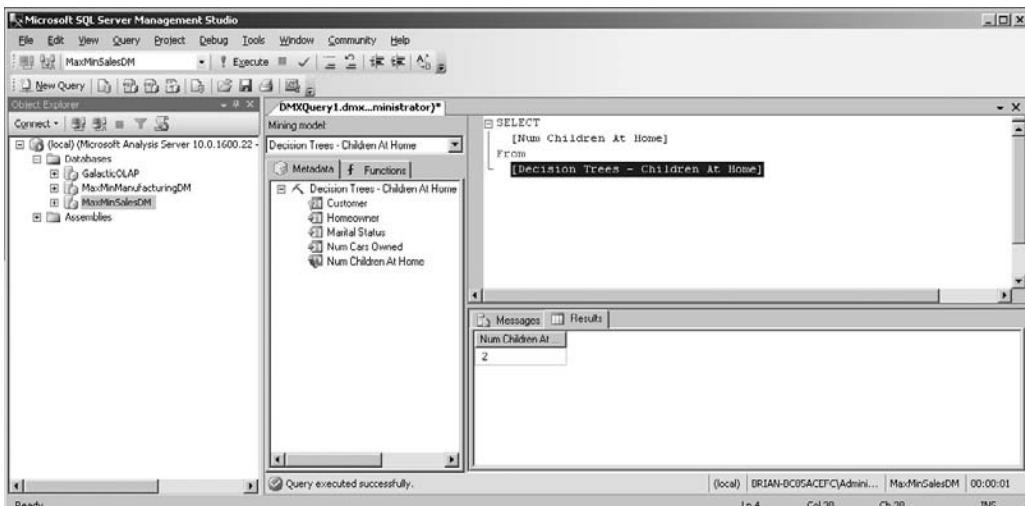

Figure 15-23 An empty prediction query in the SQL Server Management Studio
7. Click the Execute button on the toolbar. The SQL Server Management Studio appears as shown in Figure 15-23.